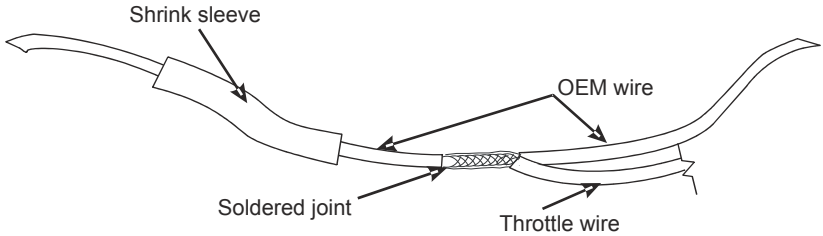

Figure 3.4
- Remove about 1 inch of insulation from the throttle control box white wire. Join the wires, solder and seal with the shrink sleeve. The preferred method is shown in Figure 3.4.